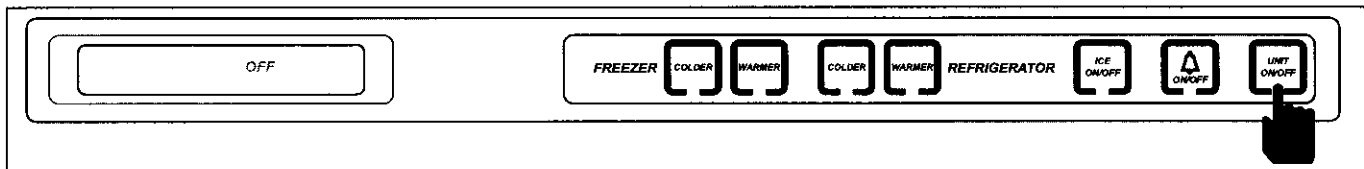
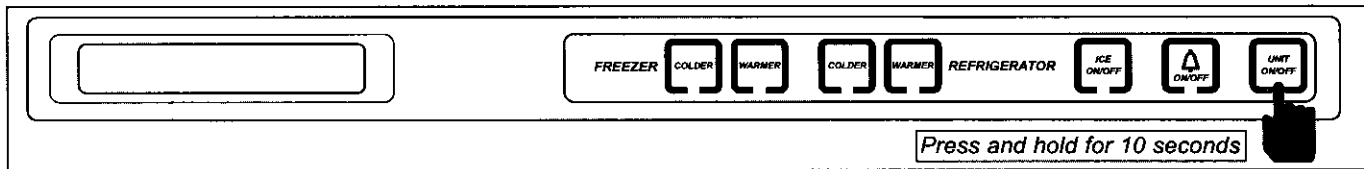

Figure 3-11. To Enter Sabbath Mode, Switch Unit OFF First
Figure 3-12. Then Press and Hold UNIT ON/OFF Key for 10 Seconds
To initiate Sabbath Mode, the unit must first be switched OFF using the UNIT ON/OFF key (See Figure 3-11), then press and hold the UNIT ON/OFF key until the LCD and lights switch OFF, approximately ten (10) seconds (See Figure 3-12). To return to normal operation, press and release the UNIT ON/OFF key.